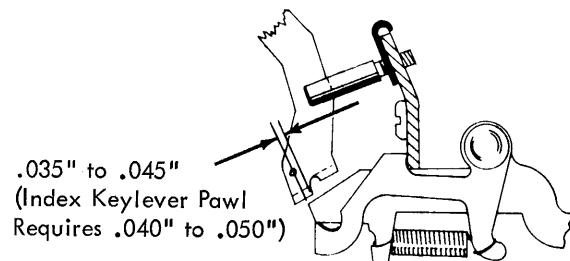

FIGURE 157. Keylever Pawl Overlap Adjustment
1. Keylever Pawl Overlap - Adjust each keylever pawl guide stud so that all the keylever pawls, except the index keylever pawl, overlap their respective interposers by  $.035''$  to  $.045''$  with both parts at rest (Fig. 157). The index keylever pawl guide should be adjusted for  $.040''$  to  $.050''$  overlap. The overlap insures proper repeat/non-repeat action.